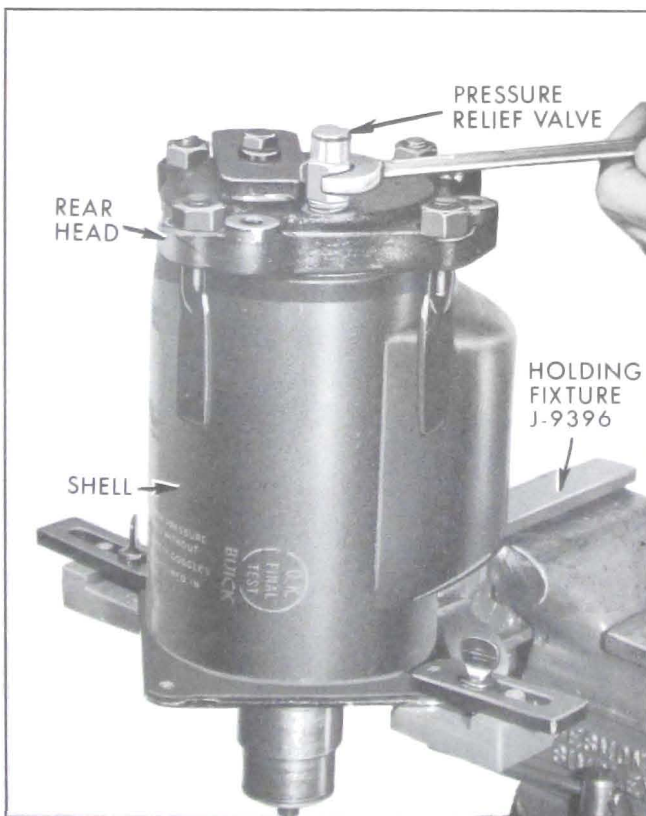

Figure 11-92—Removing Pressure Relief Valve
9. Attach J-9396 holding fixture to compressor and firmly mount assembly in vise. See Figure 11-92.